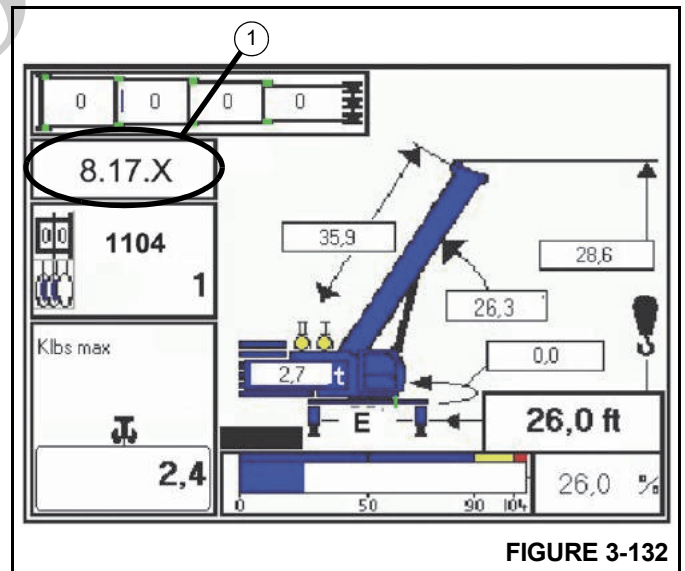

FIGURE 3-132
By pressing the “ENTER” key twice the operator will confirm the rigging code. Should an outrigger be outside the ±3% tolerance an error code will display, refer to *Error Code Display*, page 3-126 and (1) Figure 3-132.
code will still be available; however, the corresponding error code will be displayed on the operating screen (1, Figure 3-132).